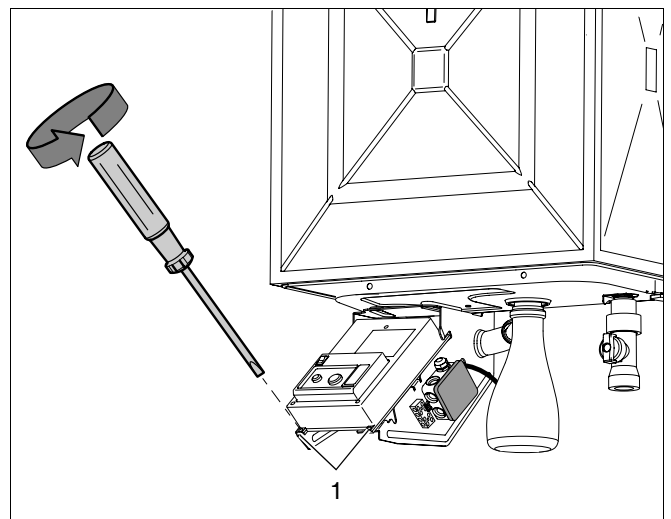

Fig. 49 Replacing the UBA
- Loosen the two screws on the UBA (fig. 49, item 1).
- Loosen the two fixing screws and carefully turn the UBA around (fig. 49, item 1, page 55).